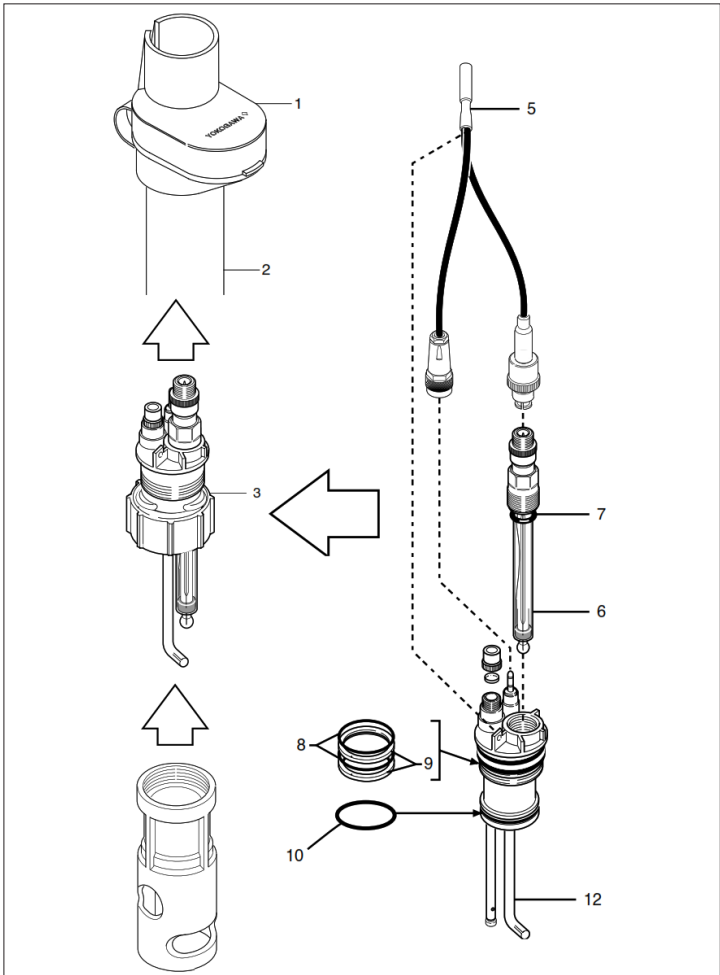

Figure 9. Exploded view PD20 immersion fitting
(see fig.9 and table 5)
1. Push the rubber cap (1) onto the top of the immersion tube (2). The bottom end of the immersion tube -the process side- has a cam inside!
2. An optional adjustable flange (12) must now be pushed onto the immersion tube from the bottom end. By unscrewing the nut and the flange, it can be slid onto the tube and fixed at any desired position.
3. Open the rubber cap and guide the connection cable (5) through the protection hood.
4. Screw the electrode (6) with O-ring (7) into the basic holder (3).
5. a. Connect the combination cable (5) onto the electrode and liquid earth connector of the basic holder (see fig. 9)